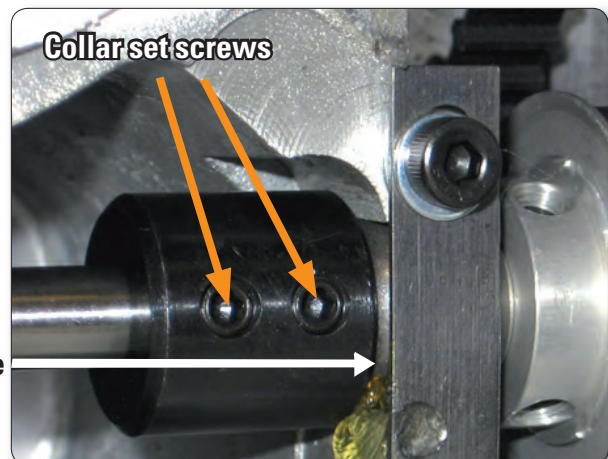

Figure 4.4
- Remove the play by loosening the hook-shaft thrust collar (not the hook-shaft timing pulley) and adjusting out any axial play. (Figure 4.4) Note: There is no flat for the hook-shaft thrust collar.